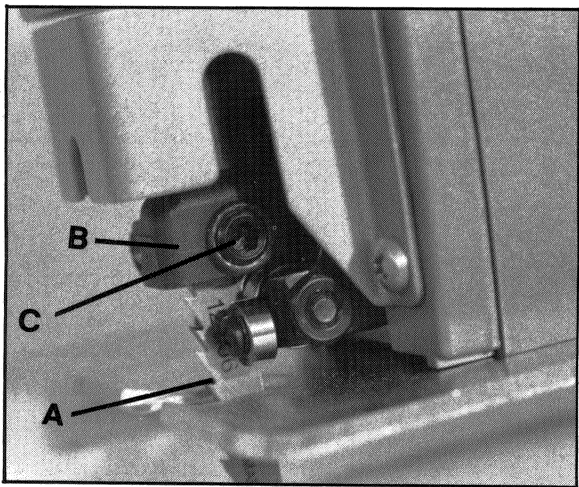

Fig. 1
Using the wrench furnished with your saw, loosen the blade screw (C) Fig. 1. Insert the blade (A) Fig. 1, up into the blade clamp (B) Fig. 1, as far as it will go. While holding the blade to the front of the blade clamp, lightly tighten blade screw (C) Fig. 1. Loosen blade screw (C) Fig. 1, 1/4 turn and pull down on the blade. The blade should not pull out. Firmly tighten the blade screw.